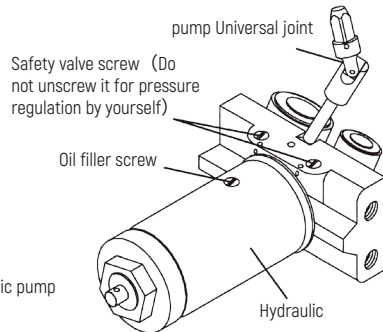

Fig.2
- 1) Loosen the oil filler screw, but do not take out the screw (see Fig. 2).
- 5) Tighten the oil filler screw (see Fig. 2).
- 1) Take out the oil filler screw (see Fig. 2).